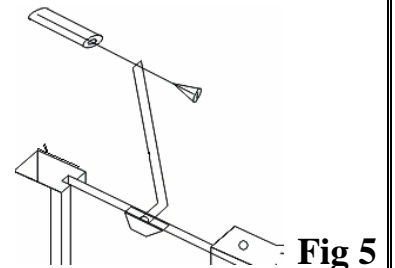

Fig 5
7. Place the stabilising bar onto the fixed panel. Mark the fixing point for the bracket to the wall. Use 6mm masonry bit, insert 1 wall plug **BS6004** and fix to wall with 1 screw **BS4002**. Fasten the bracket to the glass keeping the washer on the outside of the glass. Attach cover caps to bracket. **Fig 5**